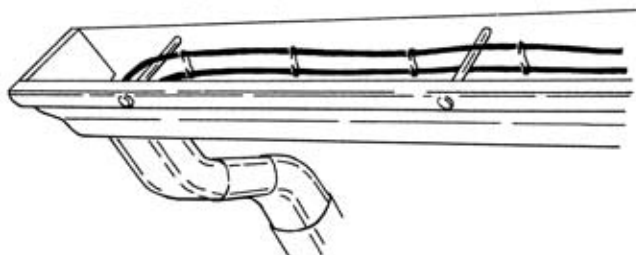
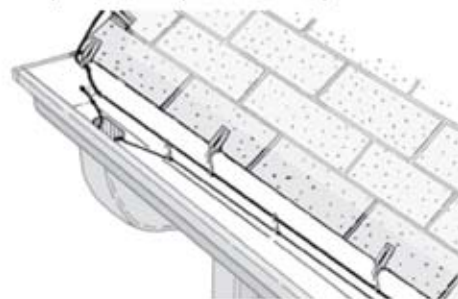

Figure 20a. Double run of cable in gutter-only applications (gutters with gutter-spikes)
Figure 20b. Double run of cable in gutter-only applications (gutters without gutter spikes)
- If you are treating only the gutters for ice problems, use a “double-run” of cable in the gutters and downspouts. Figure 20a shows a gutter installed with gutter spikes. Route the cable under and over the gutter spike to keep the cable suspended off of the bottom of the gutter. Spacers should be attached every 12 inches. Figure 20b shows a gutter with external gutter straps. Use the clips and spacers to keep the cable suspended off the bottom of the gutter. Clips should be attached every 3 feet along the roof.